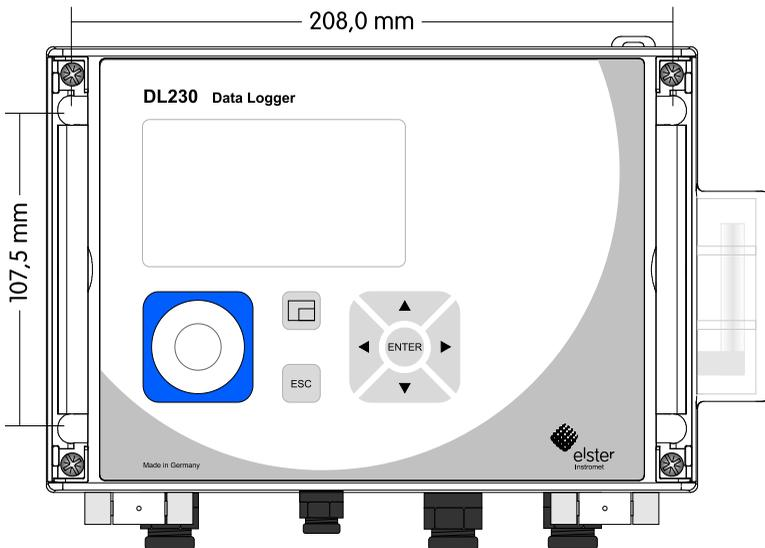

Fig. 6
1. Bore four holes in the positions marked on the wall (see dimensions in Fig. 6).